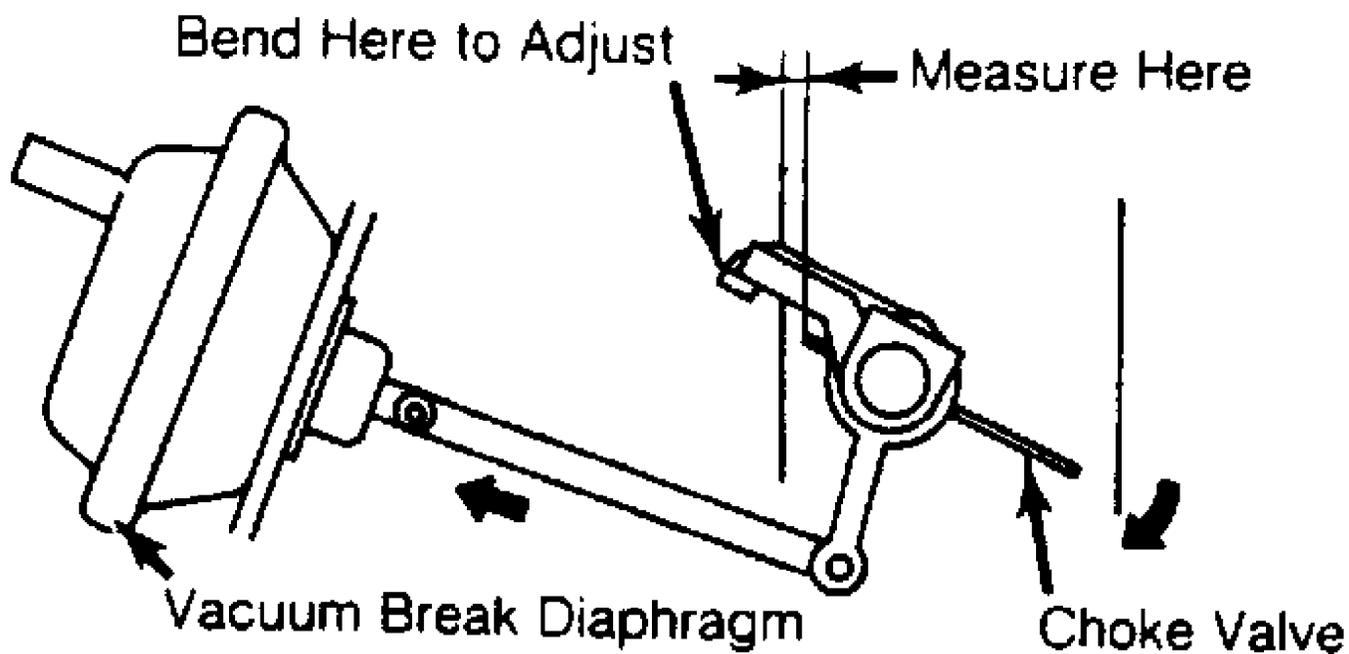

Fig. 8: Adjusting Vacuum Break
2) Measure distance while lightly holding choke valve with hand. See Fig. 8. If clearance is not to specification, adjust by bending pawl at tip of lever. See CARBURETOR ADJUSTMENT SPECIFICATIONS table.